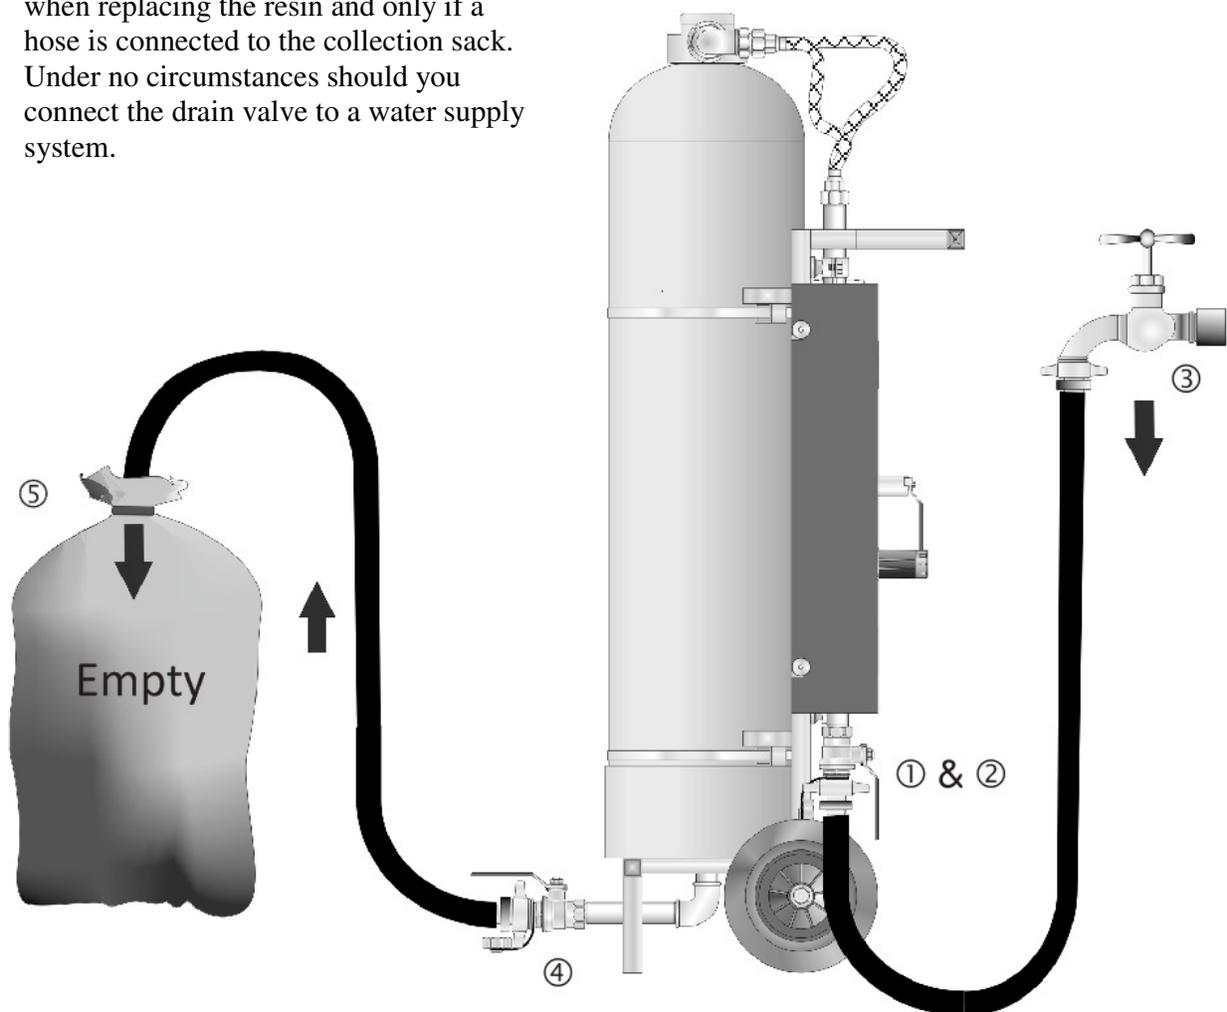

Figure 4: Emptying used resin
- a) Emptying used resin. See Fig. 4 below.